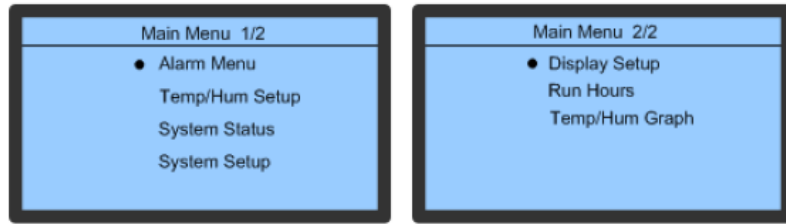

Figure 4-5 Main Menu
The Main Menu contains 7 sub-menus, divided into 2 displays as depicted in Figure 4-5.
- A black dot is displayed to the left of a menu-item in the preceding Figure 4-5. The black dot indicates that the menu has a sub-menu or settings for the parameters of that menu can be configured/modified/alterd.